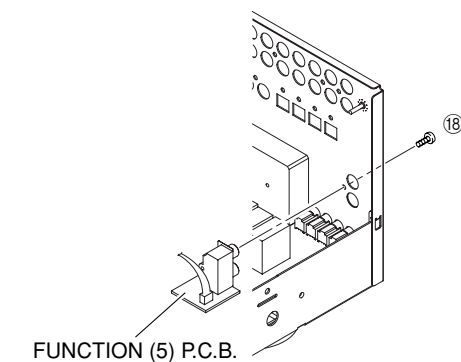

Fig. 8
9. Removal of FUNCTION (5) P.C.B. (B model)
- a. Remove screw (18). (Fig. 8)
- b. Remove the FUNCTION (5) P.C.B.. (Fig. 8)